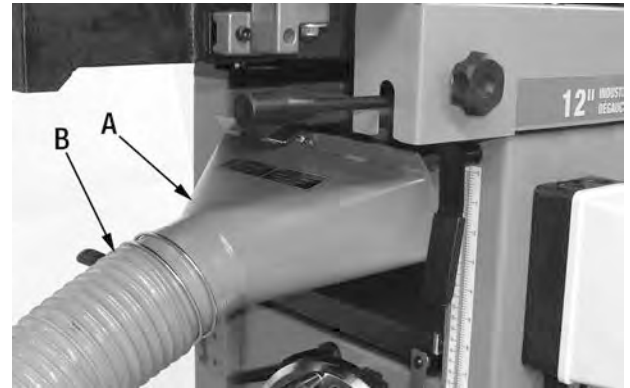

FIGURE 22
This machine is equipped with a dust chute for use during jointing and planing operations. The dust chute (A) Fig.22 has a 4" opening. It's very important to use some type of dust collection system with this machine to prevent the build up of wood chips that could interfere with the rollers or the cutterhead. Attach an appropriate 4" diameter hose (B) (not supplied) to the dust chute and secure it in place using a wire clamp (not supplied).